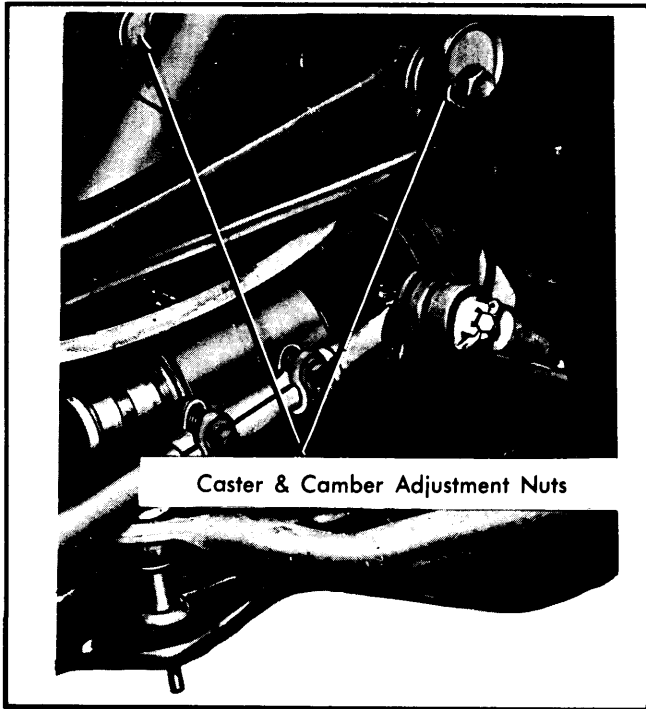

Fig. 14 Eldorado & Seville Caster & Camber Cam Locations
4) Rotate rear cam bolt until camber setting returns to 0°. Tighten cam nuts to 95 ft. lbs. and recheck adjustments. See Fig. 14.